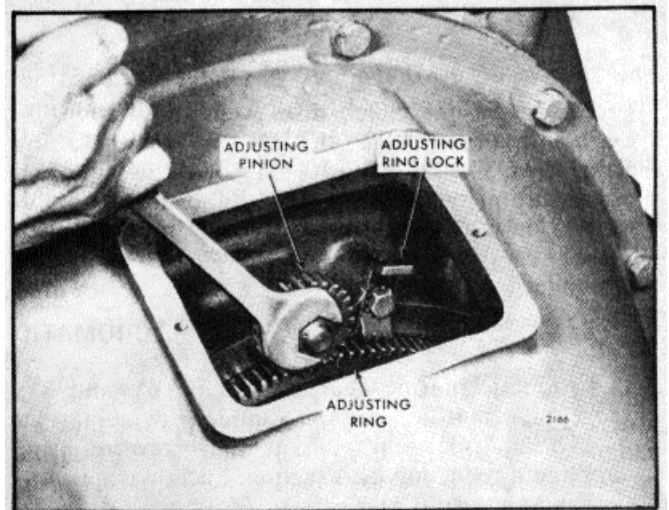

Fig. 12. - Power Take-Off Assembly Showing Method of Adjusting 18 Inch Diameter Clutch
2. Loosen the lock bolt and pull the lock out of mesh with the adjusting ring; then, tighten the lock bolt to hold the lock out of the adjusting ring. While holding the clutch drive shaft to prevent the clutch from turning, turn the adjustment pinion clockwise to tighten the clutch as shown in Fig. 12.